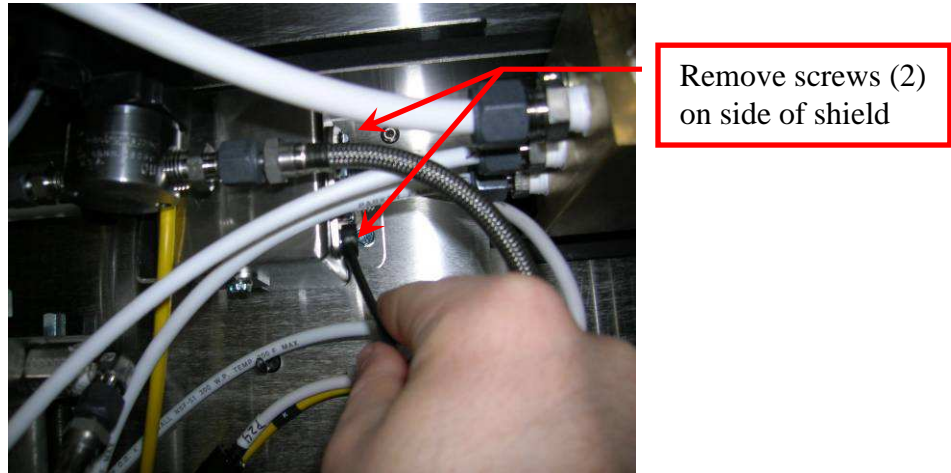

Figure 15 Combustible Gas Sensor Removal
2. Gain access to the fluids bay and remove the combustible gas sensor head by removing the two (2) screws that hold the sensor head mounting plate to the sensor shield. See Figure 15.